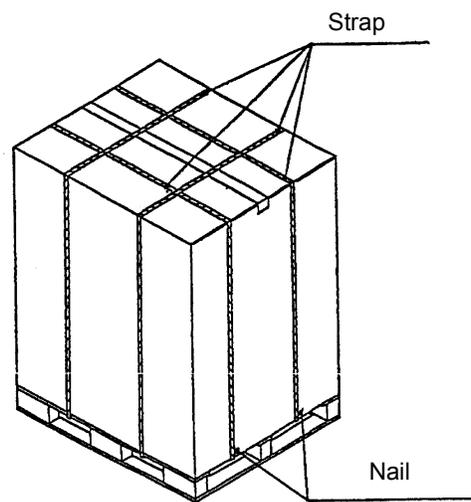

Figure 2-1
1. Remove the straps from the carton as shown in Figure 2-1.